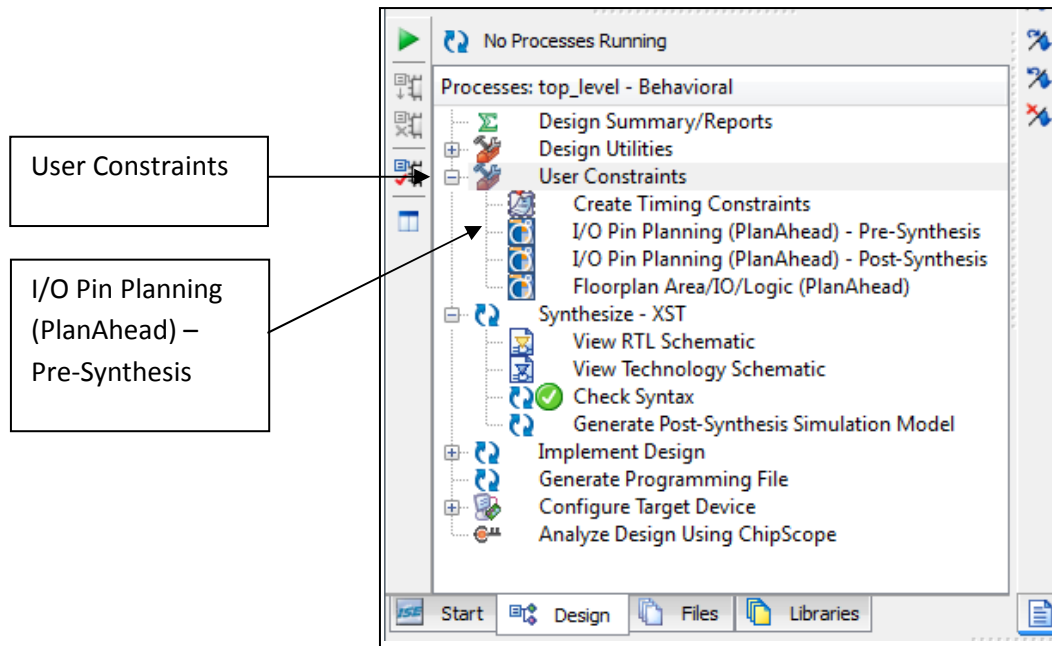

Figure 6.39: Portion of Project Navigator screen, with User Constraints expanded.
1. As shown in Figure 6.39, click on the '+' next to **User Constraints**. This will expand out to show various items, including **I/O Pin Planning (PlanAhead) – Pre-Synthesis**.